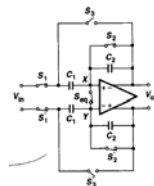

Figure 12.46 Differential realization of noninverting amplifier.
- **Input dependent charge injection** is again **avoided** by proper **timing**, turning  $S_2$  off before  $S_1$ .  $V_{out}$  is free for errors due to  $S_1$  and  $S_3$ , and offset due to  $S_2$  can be suppressed by **differential** operation (Fig. 12.46).